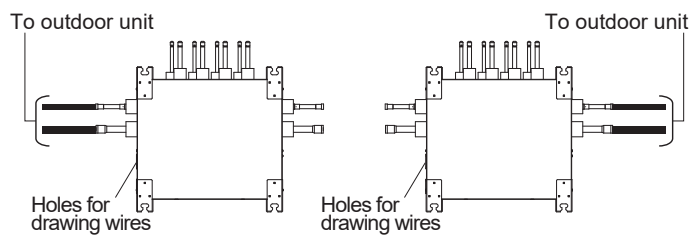

Fig. 4-3
- Connect the connection pipes of the outdoor unit to the main pipe connection ports on either side of the Branch box, depending on connection conditions such as the installation location of the outdoor unit. (Fig. 4-3)